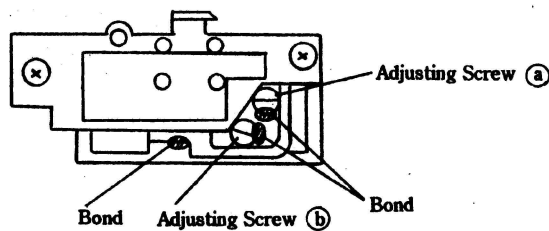

Fig. 75
- 16) Lock the Adjusting Screws with the bond (Cemedine 551) as shown in Fig. 75.